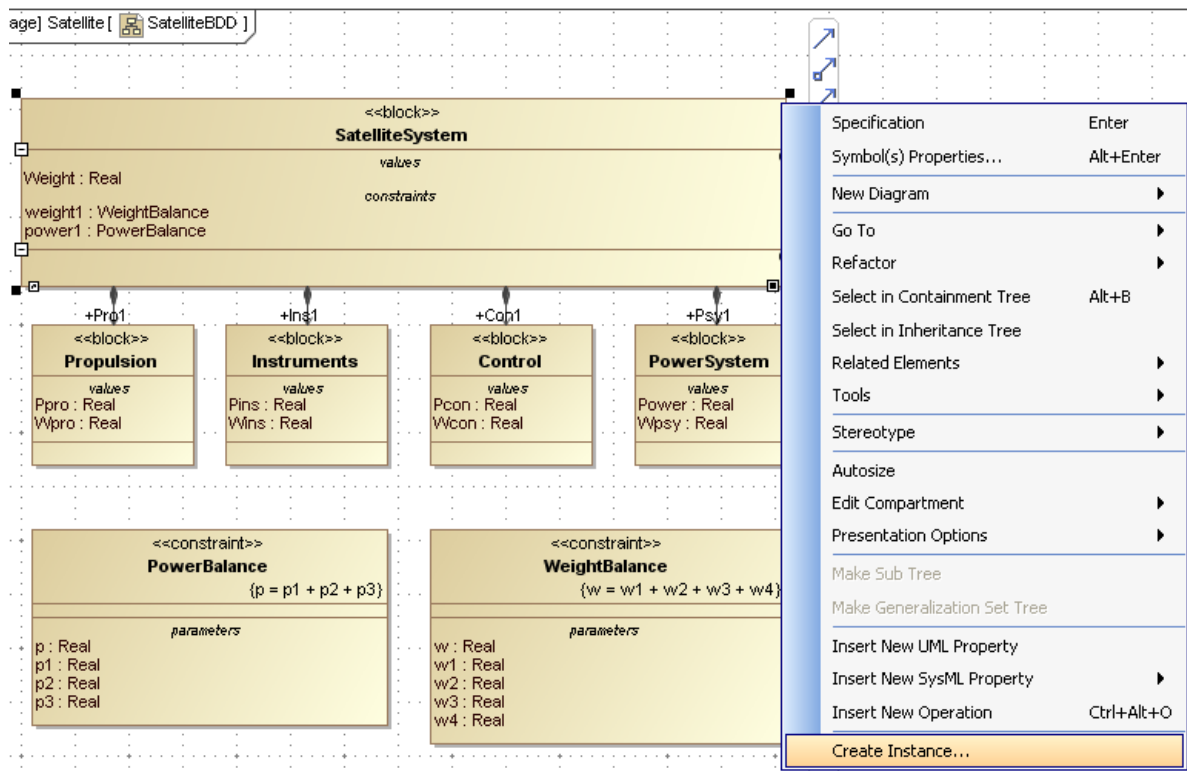
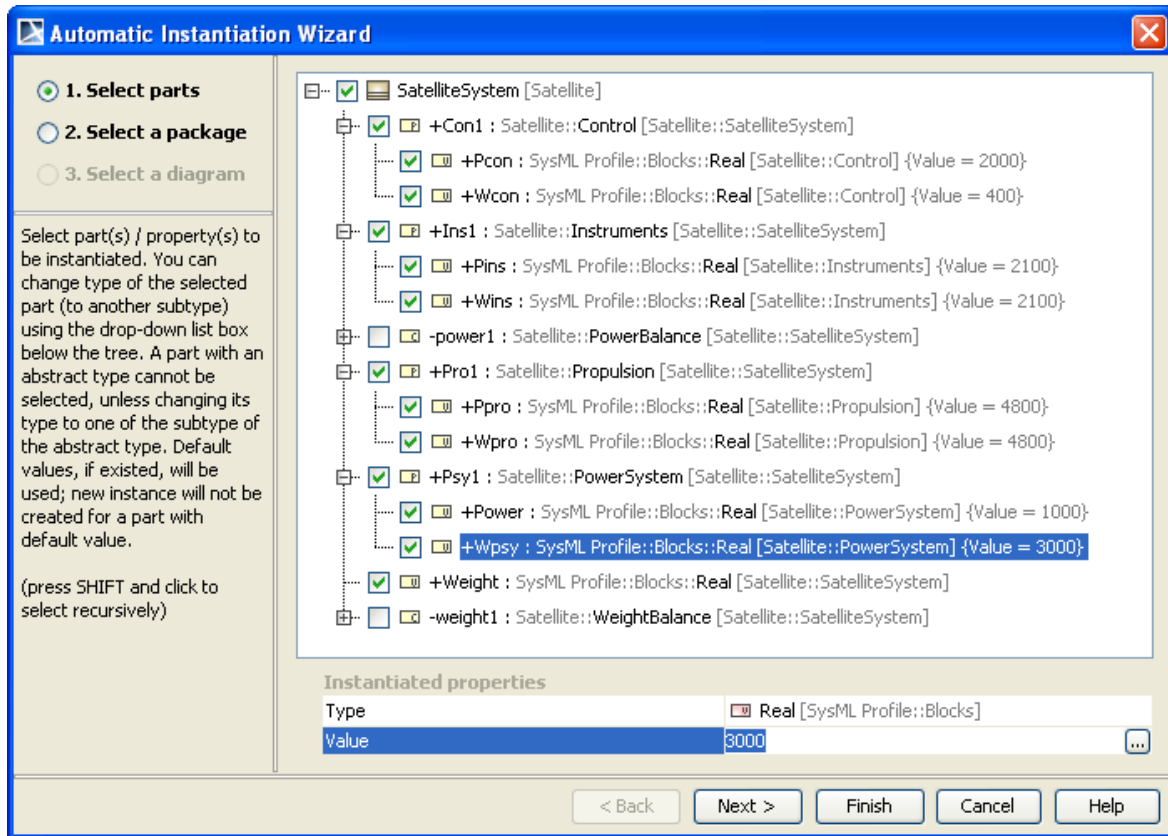

Figure 37 -- Create Instance... Shortcut Menu
Figure 38 -- Automatic Instantiation Wizard - Step 1. Select parts
1. Right-click a block and select **Create Instance...** on the shortcut menu (Figure 37). The **Automatic Instantiation Wizard** dialog will open (Figure 38). Note that Paramagic sample projects are available in the `<md.install.dir>/samples/ParaMagic` directory after you installed Paramagic Plugin. The **Satellite.mdzip** sample is used to demonstrate how this feature works.
- In **Step 1 (Select parts)**, select the required properties as shown in Figure 38 and set the value for each value property of the instantiate classifier. Click **Next**.